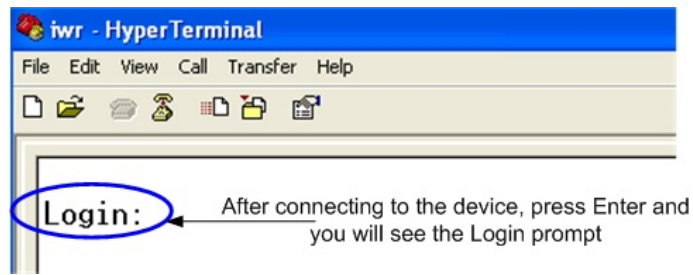

Figure 7. WANFlex OS prompt
9. If you connected everything properly, selected the right port and made its configuration right, after pressing enter on the white blank screen (after step 8) you should see WANFlex OS prompt as shown on Figure 7